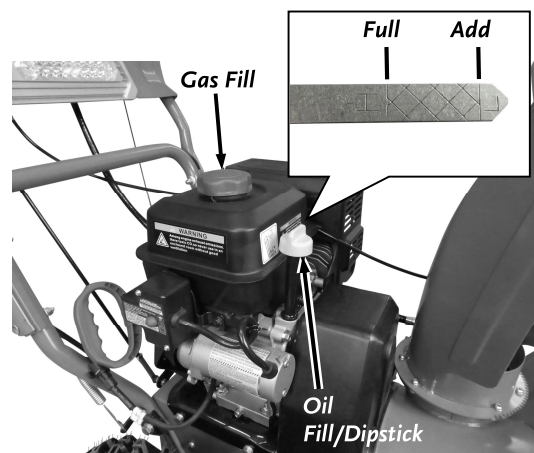

Figure 37
5. Remove the Oil Fill/Dipstick and initially add 3/4 of oil (type of oil recommended by the Engine Manufacturer) into the Oil Fill and wait one minute for the oil to settle (**Figure 37**).